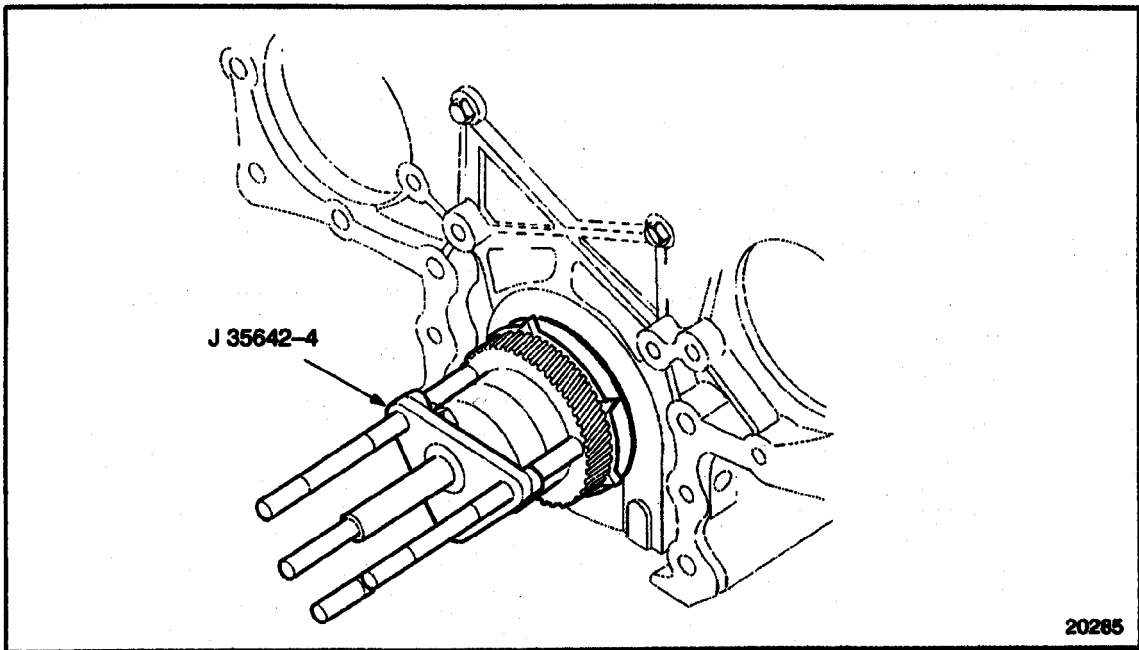

Figure 1-396 Pressure Plate Installation
7. Install J 35642-4 part of J 35642 to the three pulley legs. Seat the pressure plate against the flanges on the puller legs. See Figure 1-396.